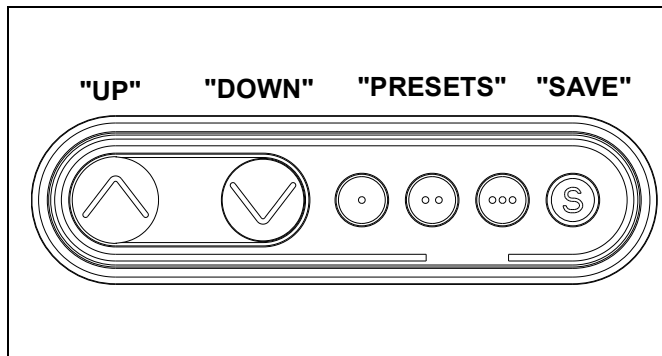

Figure 38
1. Press "UP" or "DOWN" buttons to raise or lower height as desired. (See Figure 38)
1. Adjust height until desired preset level is reached using "UP" and "DOWN" buttons. (See Figure 38)
2. Press "SAVE" button. (See Figure 38)
3. Press one of three preset buttons (., .. or ...) to save preset position. (See Figure 38)